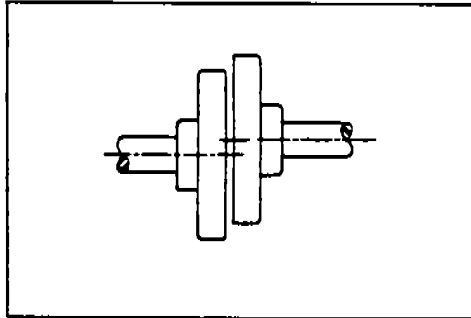
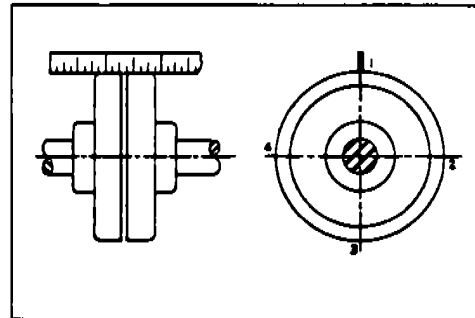

Figure 2
Figure 4
**OPERATION-** When a polyphase fluid coupling motor is started the motor should accelerate to approximately 80% of synchronous speed within 5 to 10 seconds. The output shaft of the coupling may require a longer time, as much as 60 to 90 seconds, to accelerate. Single phase motors should not require more than 3 to 5 seconds to accelerate to a speed above that at which the short circuiter or cut-out switch operates. The load may take many times this interval to come up to rated operating speed. When the coupling does not cushion the starting shock sufficiently, or if a high inertia load is being started and the motor does not come up to speed quickly, reducing the oil level in the coupling will improve the operation. This level should be reduced until the motor starts and comes up to 80% of synchronous speed quickly (not over 10 seconds) while the load accelerates more slowly. When satisfactory performance has been obtained, the new "Top for Filling" mark should be established by painting the fill number or by marking the coupling housing in some manner. Note: (The fill level must not be lower than that obtained with figure 4 fill).
Parallel misalignment is illustrated in Figure 2. Where the misalignment is in the vertical plane, it can be corrected by altering the height of either of the shafts. If the misalignment is in the horizontal plane, it usually is easy to correct by moving one of the components transversely until the correct position is obtained. When both halves of a coupling are of the same outside diameter, parallelism can be checked by the use of a straight edge at points 1, 2, 3, and 4 as shown in Figure 4.
2. Parallel Misalignment (Figure 2)